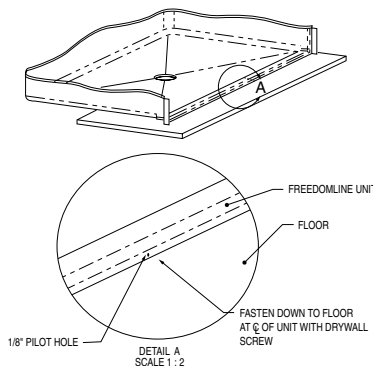

Fig. 2 Alcove Framing
7. **Showers:** A 6" (150mm) floor opening for 2" (50mm) IPS and below grade drain connection. [Fig. 2]